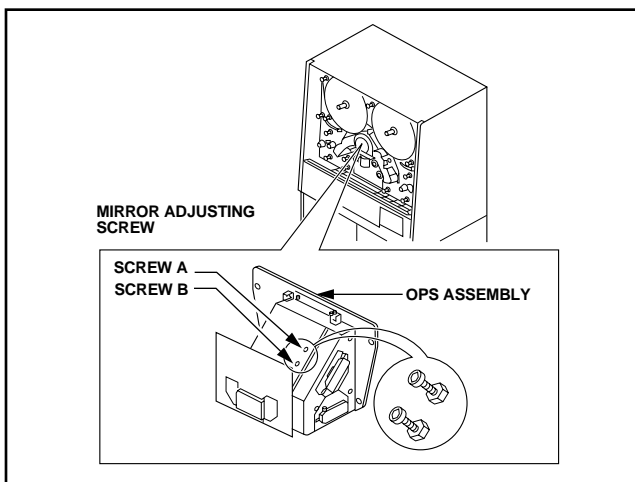

Figure 3
- Loosen nuts of screws A and B of the OPS assembly to adjust. (See Figure 3.)